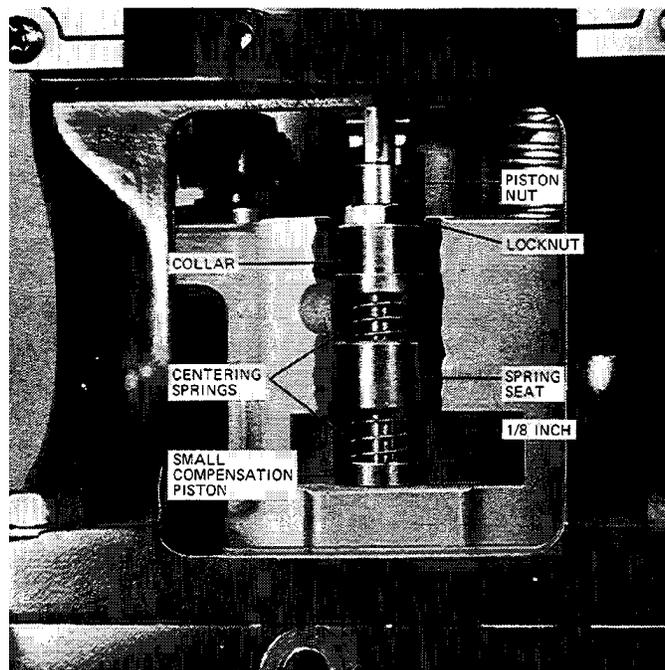

Figure 5-6. Adjusting Small Compensation Piston Centering Spring Preload
1. Install accumulator pistons (354), springs (355), and washers (356) in controlet (377) using an arbor press.
2. Install laminated-spring drive (342 through 346) and ballhead drive gear (341). Secure with cotter pin (340).
3. Install gear (325) and gear plate (323).
4. Install small compensation piston (351), centering springs (350), collar (349), jam nut (348), and piston nut (347).
5. Adjust centering spring preload by turning the jam nut down until the upper edge of the piston is 1/8-inch (3.2 mm) above the lower edge of the inspection port in the controlet (see Figure 5-6). Do not apply any external force on nuts while making pre-load measurements. Lock the jam nut in position with the piston nut after making the final adjustment.